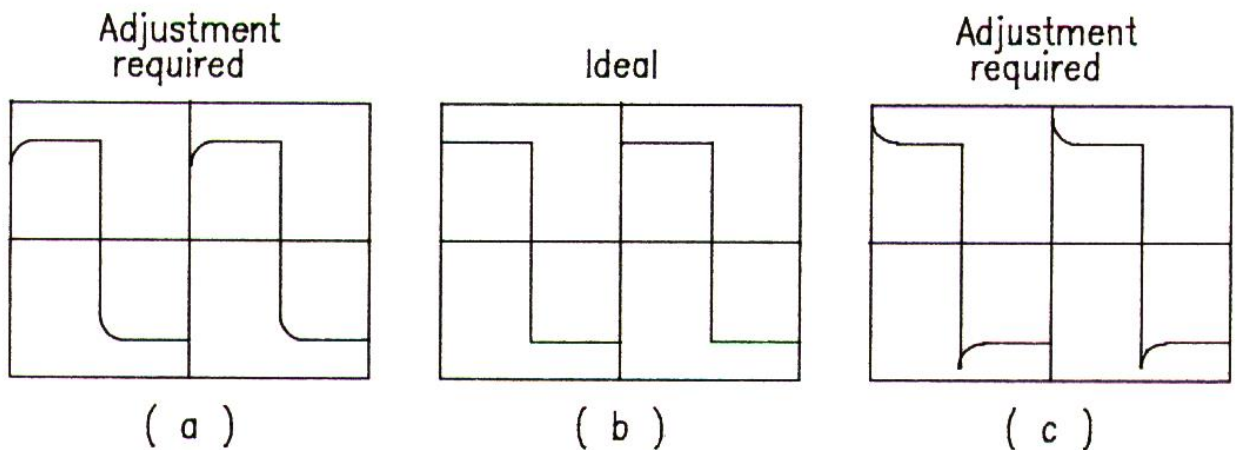

Fig. 9
- e. Adjust VC1 to make the displayed waveform become as Fig 9(b).
- g. Adjust VC2 to make the displayed waveform become as Fig. 9(b).